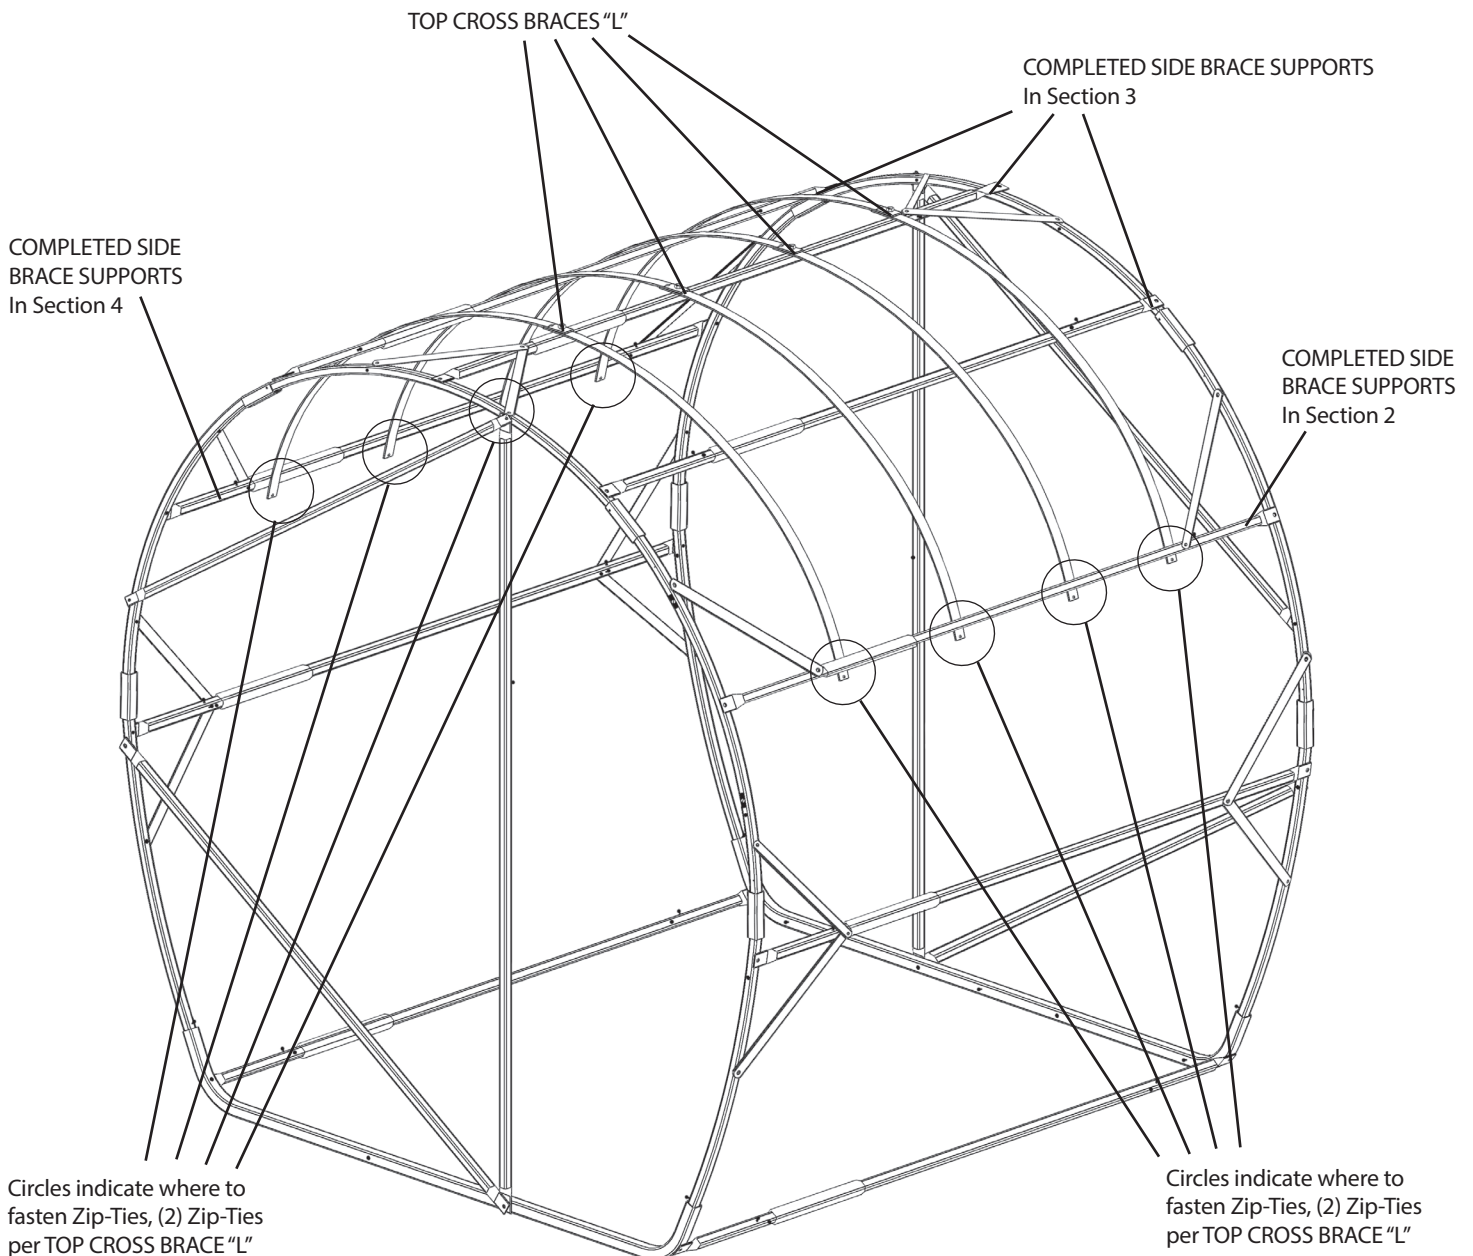

Figure 29.1
STEP 21: The (4) TOP CROSS BRACES "L" will be installed along the top part of your bale blind frame, on the outside of the (3) COMPLETED SIDE BRACES in Section 3, with their hole end resting under the (2) COMPLETED SIDE BRACES located in Section 2 and Section 4, resulting in the frame illustrated in Figure 29.1. Then fasten hole ends with Zip-Ties.